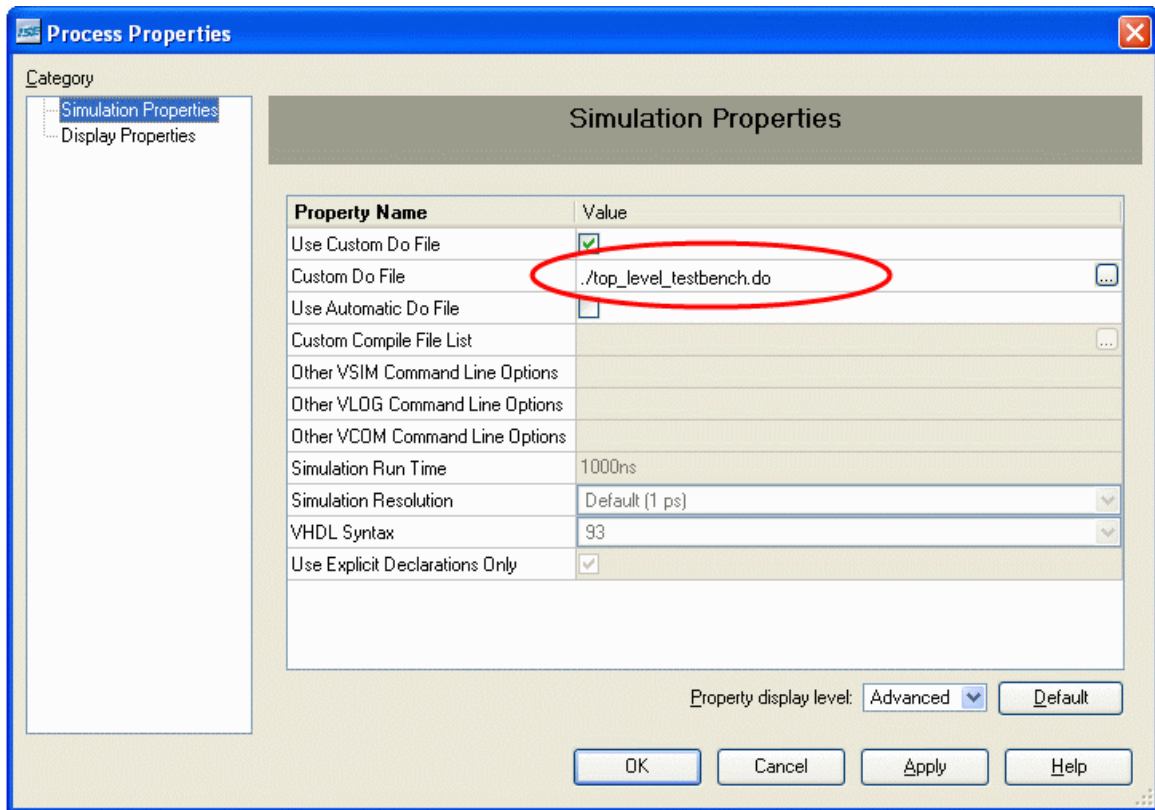

Figure 5: Specification of Custom .do File
4. In the **Processes** window, right click on the **Simulate Behavioral Model** option under **ModelSim Simulator**, and select **Properties...** Note that a Custom Do File has been specified as shown in Figure 5.